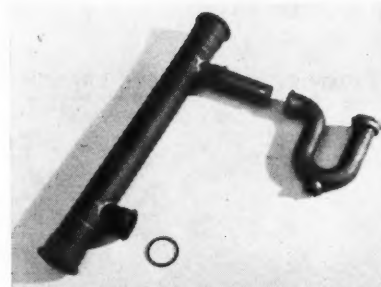

Fig. 25. The Bendz neoprene joint for copper pipe has been used in pipes up to 4 in. diameter
**Copper Pipe Joints.** A new technique of joining copper pipes—the Bendz system—was developed in collaboration with the manufacturer. This consists of a neoprene ring inserted into a groove at one end of a pipe into which the end of another is simply pushed by hand (Fig. 25). Installations with both soil and waste pipes have been made in several schemes, including 11-storey blocks of flats. The saving of labour and speed of erection is phenomenal. Technically the system has stood up to every test, including chemical examination and laboratory test of fittings removed from flats after a lengthy period of use. Financially, owing to the comparatively high cost of copper tube, compared with galvanised steel and cast iron, the system is not always competitive but tends to be cheaper if the plumbing is complicated. In one 11-storey block of maisonettes the saving has been found to be about £2 per flat with the additional advantage of a considerable saving in time of erection.